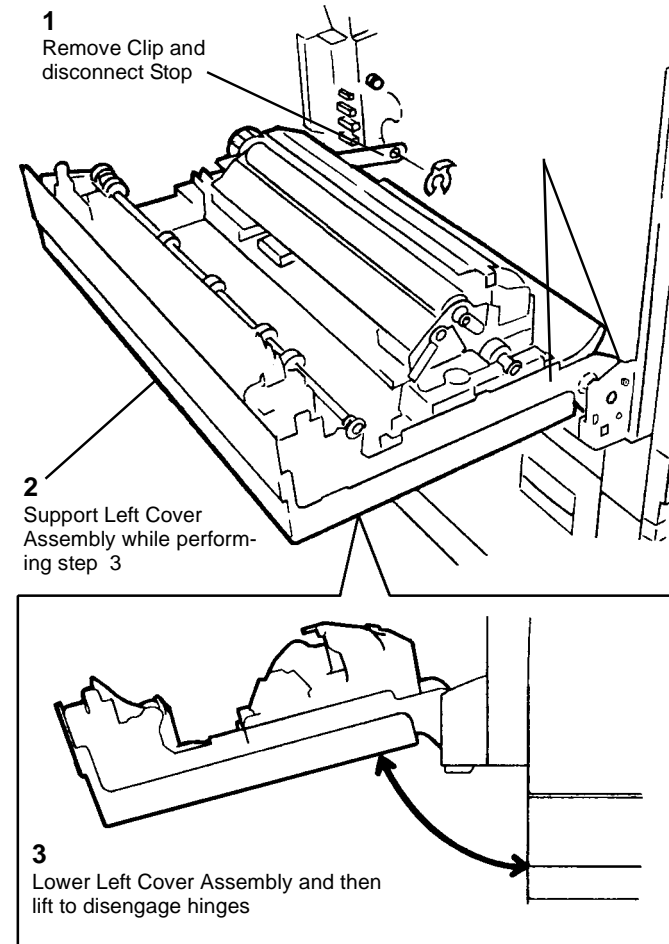

Figure 2 Removing Left Cover Assembly
6. Remove the Left Cover Assembly (Figure 2).